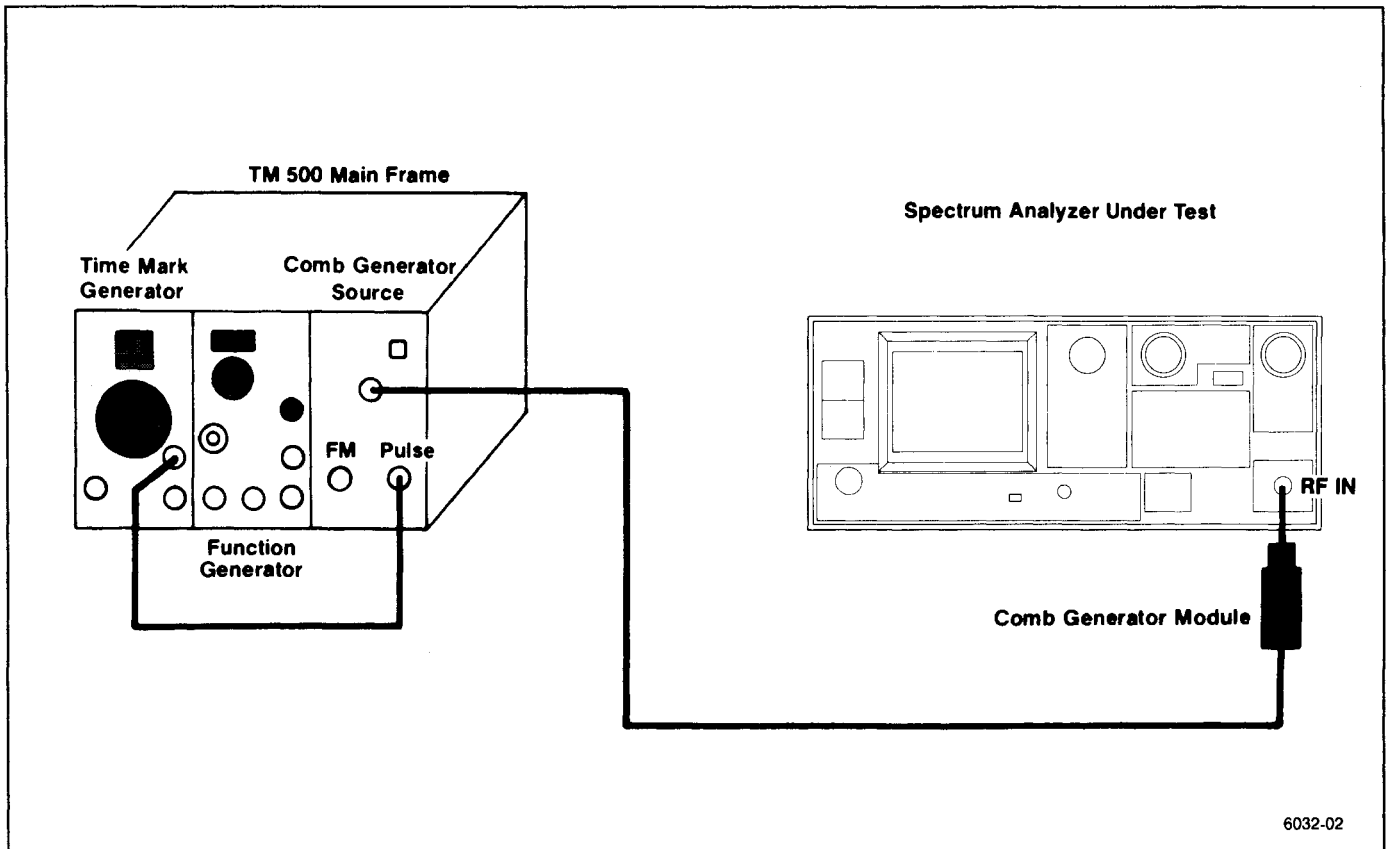

Figure 4-6. Test equipment setup for checking frequency Span/Div and sweep Time/Div accuracy.
c. Remove the CAL OUT signal from the RF INPUT and set up the test equipment as shown in Figure 4-6. Set the FREQUENCY to 10 GHz, (band 4, 5.4 to 18 GHz) FREQ SPAN/DIV to 500 MHz, RESOLUTION BANDWIDTH to 100 kHz, and REF LEVEL to -10 dBm. Press <SHIFT> PEAK MENU and select item 3, then set REF LEVEL for the best marker definition. It may also help to reset the CENTER FREQUENCY for better marker definition.
f. Modulate the Comb Generator signal with 10  $\mu$ s markers, from the Time Mark Generator, by applying the Marker Output to the Pulse Input of the Comb Generator as shown in Figure 4-6. Press <SHIFT> PEAK MENU and select item 3.